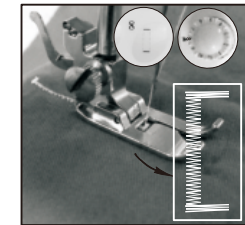

Fig.19
- (4) Choose the stitch pattern #8, then turn on switch and sew 5-6 stitches in low speed, then turn off switch (Fig. 19).